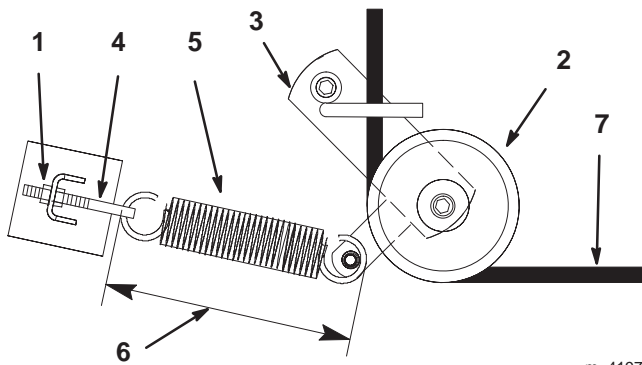

Figure 55
3. Loosen outer nut on spring eye bolt (Fig. 55).
5. Remove spring loaded idler pulley (Fig. 55).
6. Route new belt through idler arm (Fig. 55).
8. Retighten outer nut on spring eye bolt (Fig. 55).
Note: Check spring length. The spring should measure 9.375" ± .125" (238 mm ±.3 mm) when installed. Adjust if it does not (Fig. 55).